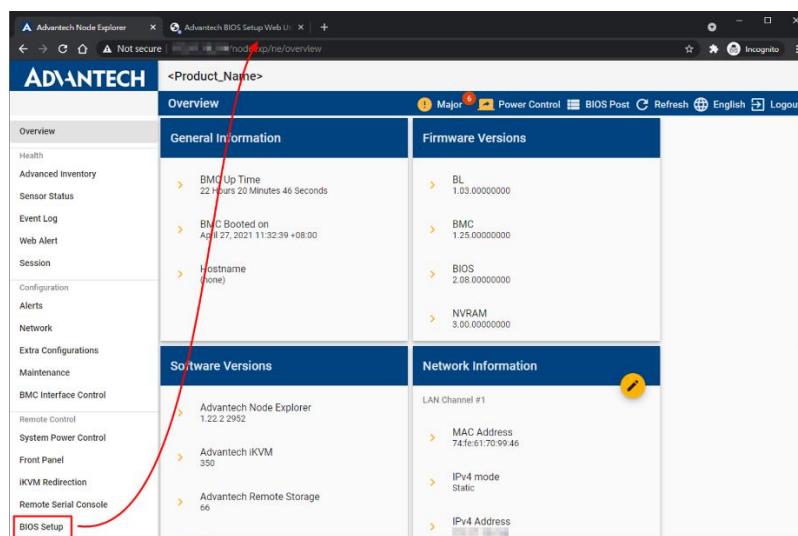

Figure 116: Open BIOS Setup Page
1. Click **BIOS Setup** on the left toolbar, the BIOS setup page will be shown in a new tab of the browser (see Figure 116).